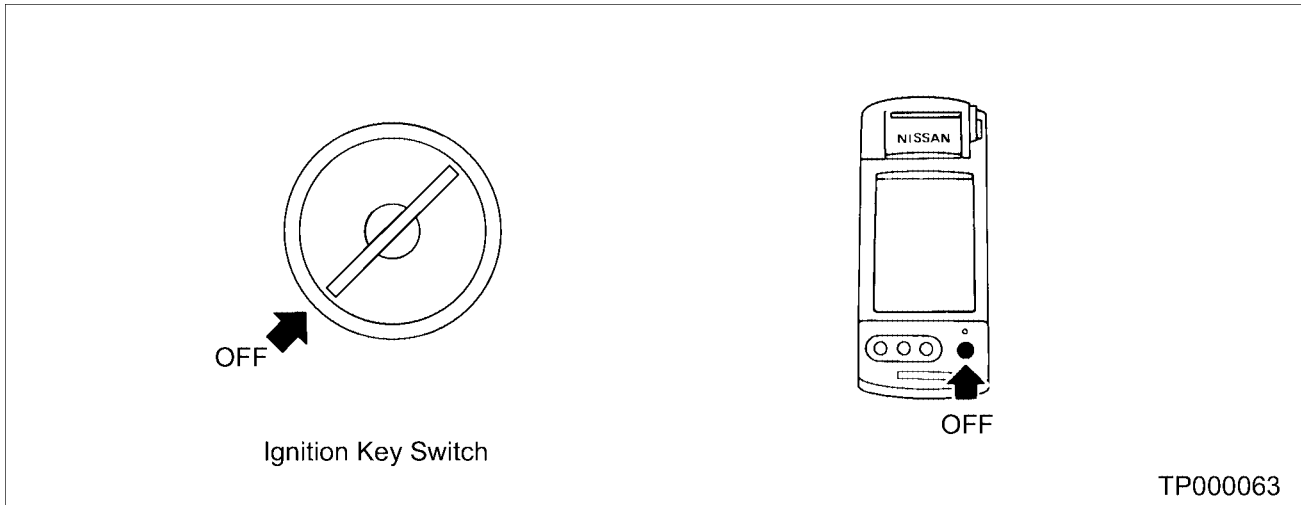

Figure 7
8. Turn the vehicle's ignition switch "OFF" and CONSULT-II "OFF" (see Figure 7).